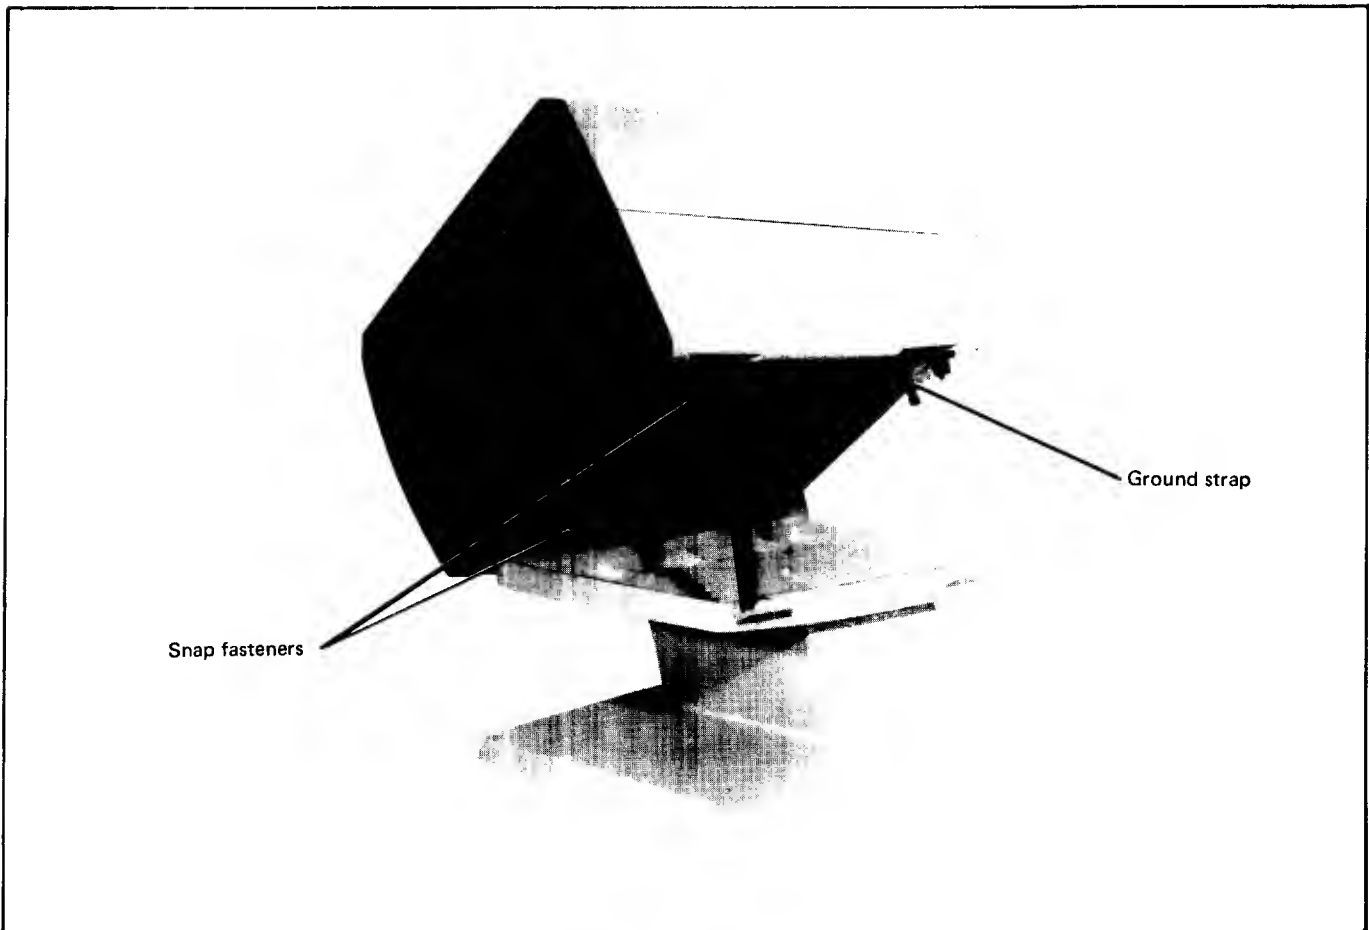

Figure 7-5 Releasing The Processor PCA
2. Pull outwards on each of the two snap fasteners securing Processor PCA to mainframe bottom. Lower Processor PCA until it rests on the support (figure 7-5 and 7-6). (It will then be disconnected from the CRT base cable).